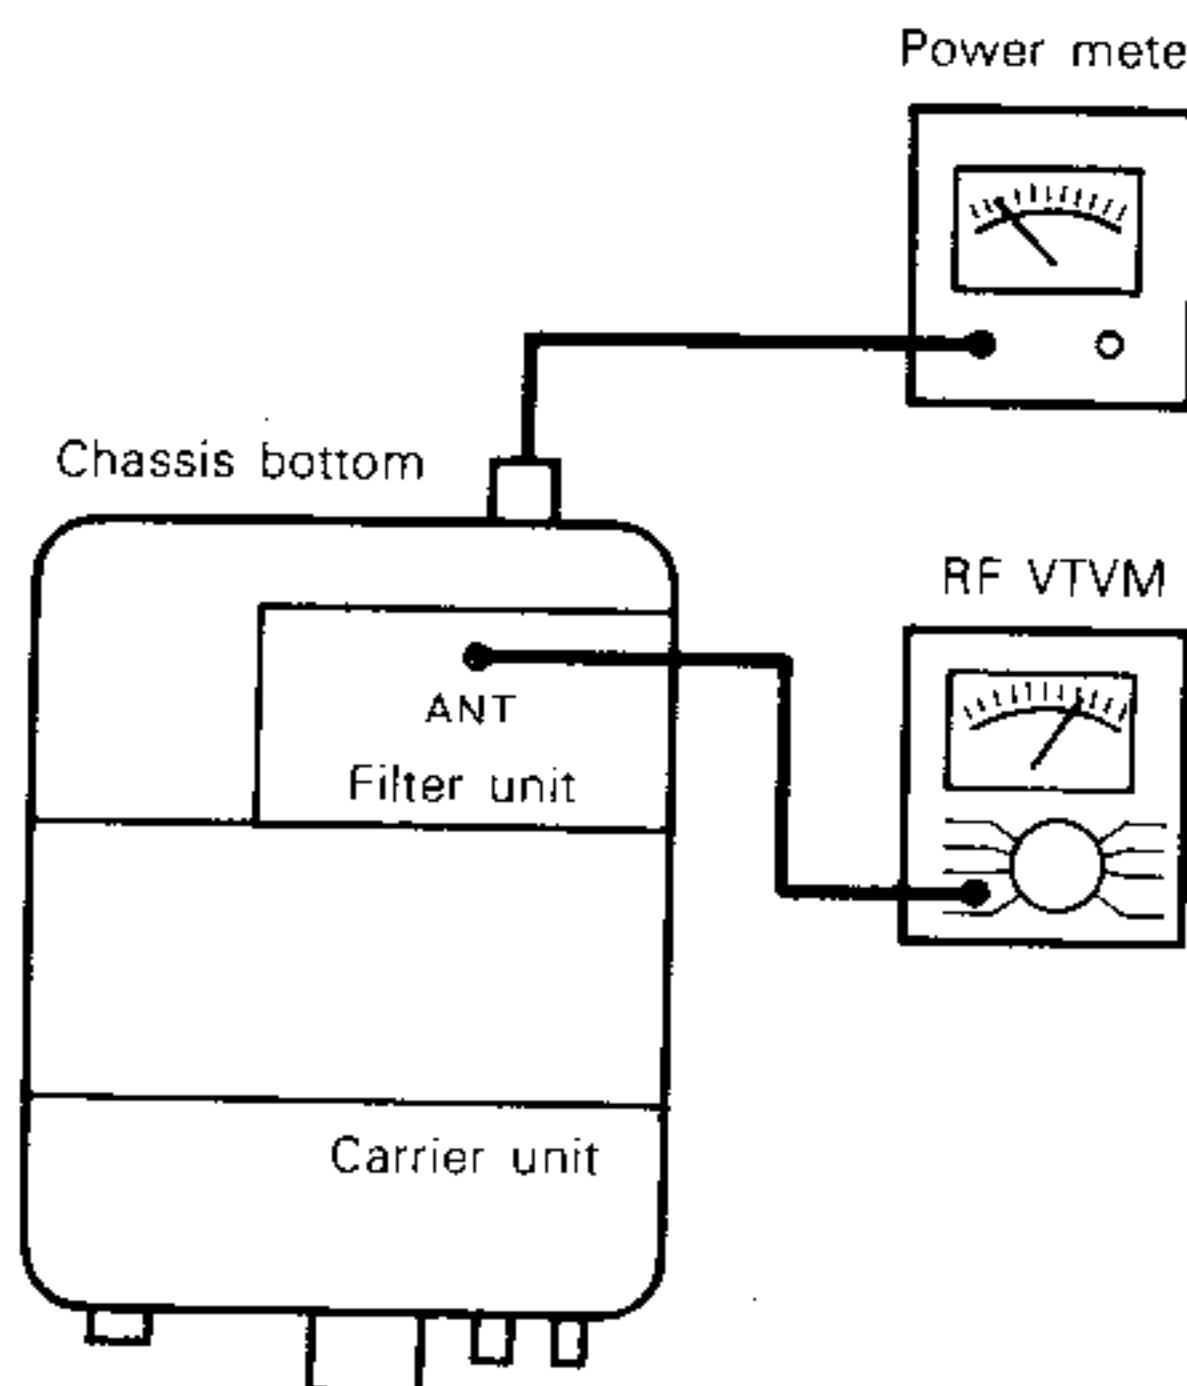

FIG. 11 ADJUSTMENT OF CARRIER SUPPRESSION
- (1) Connect the power meter to the ANT terminal. Connect RF VTVM (0.3V range) to the ANT terminal of the filter unit (Fig. 11).
(2) Short the MIC terminals "2" and "4" to set into transmitting.